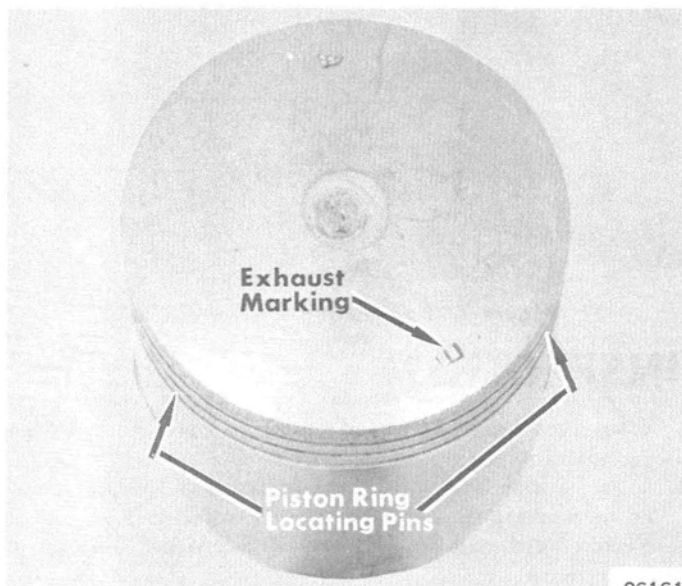

Figure 4. Exhaust Marking on Piston
6. Piston **MUST BE** installed on connecting rod so that "E" (Exhaust side), stamped in top of piston, is toward exhaust ports of cylinder. (Figure 4)
NOTE: If piston does not have "E" stamping, refer to Figure 4. Piston ring locating pins are located on exhaust side of piston.